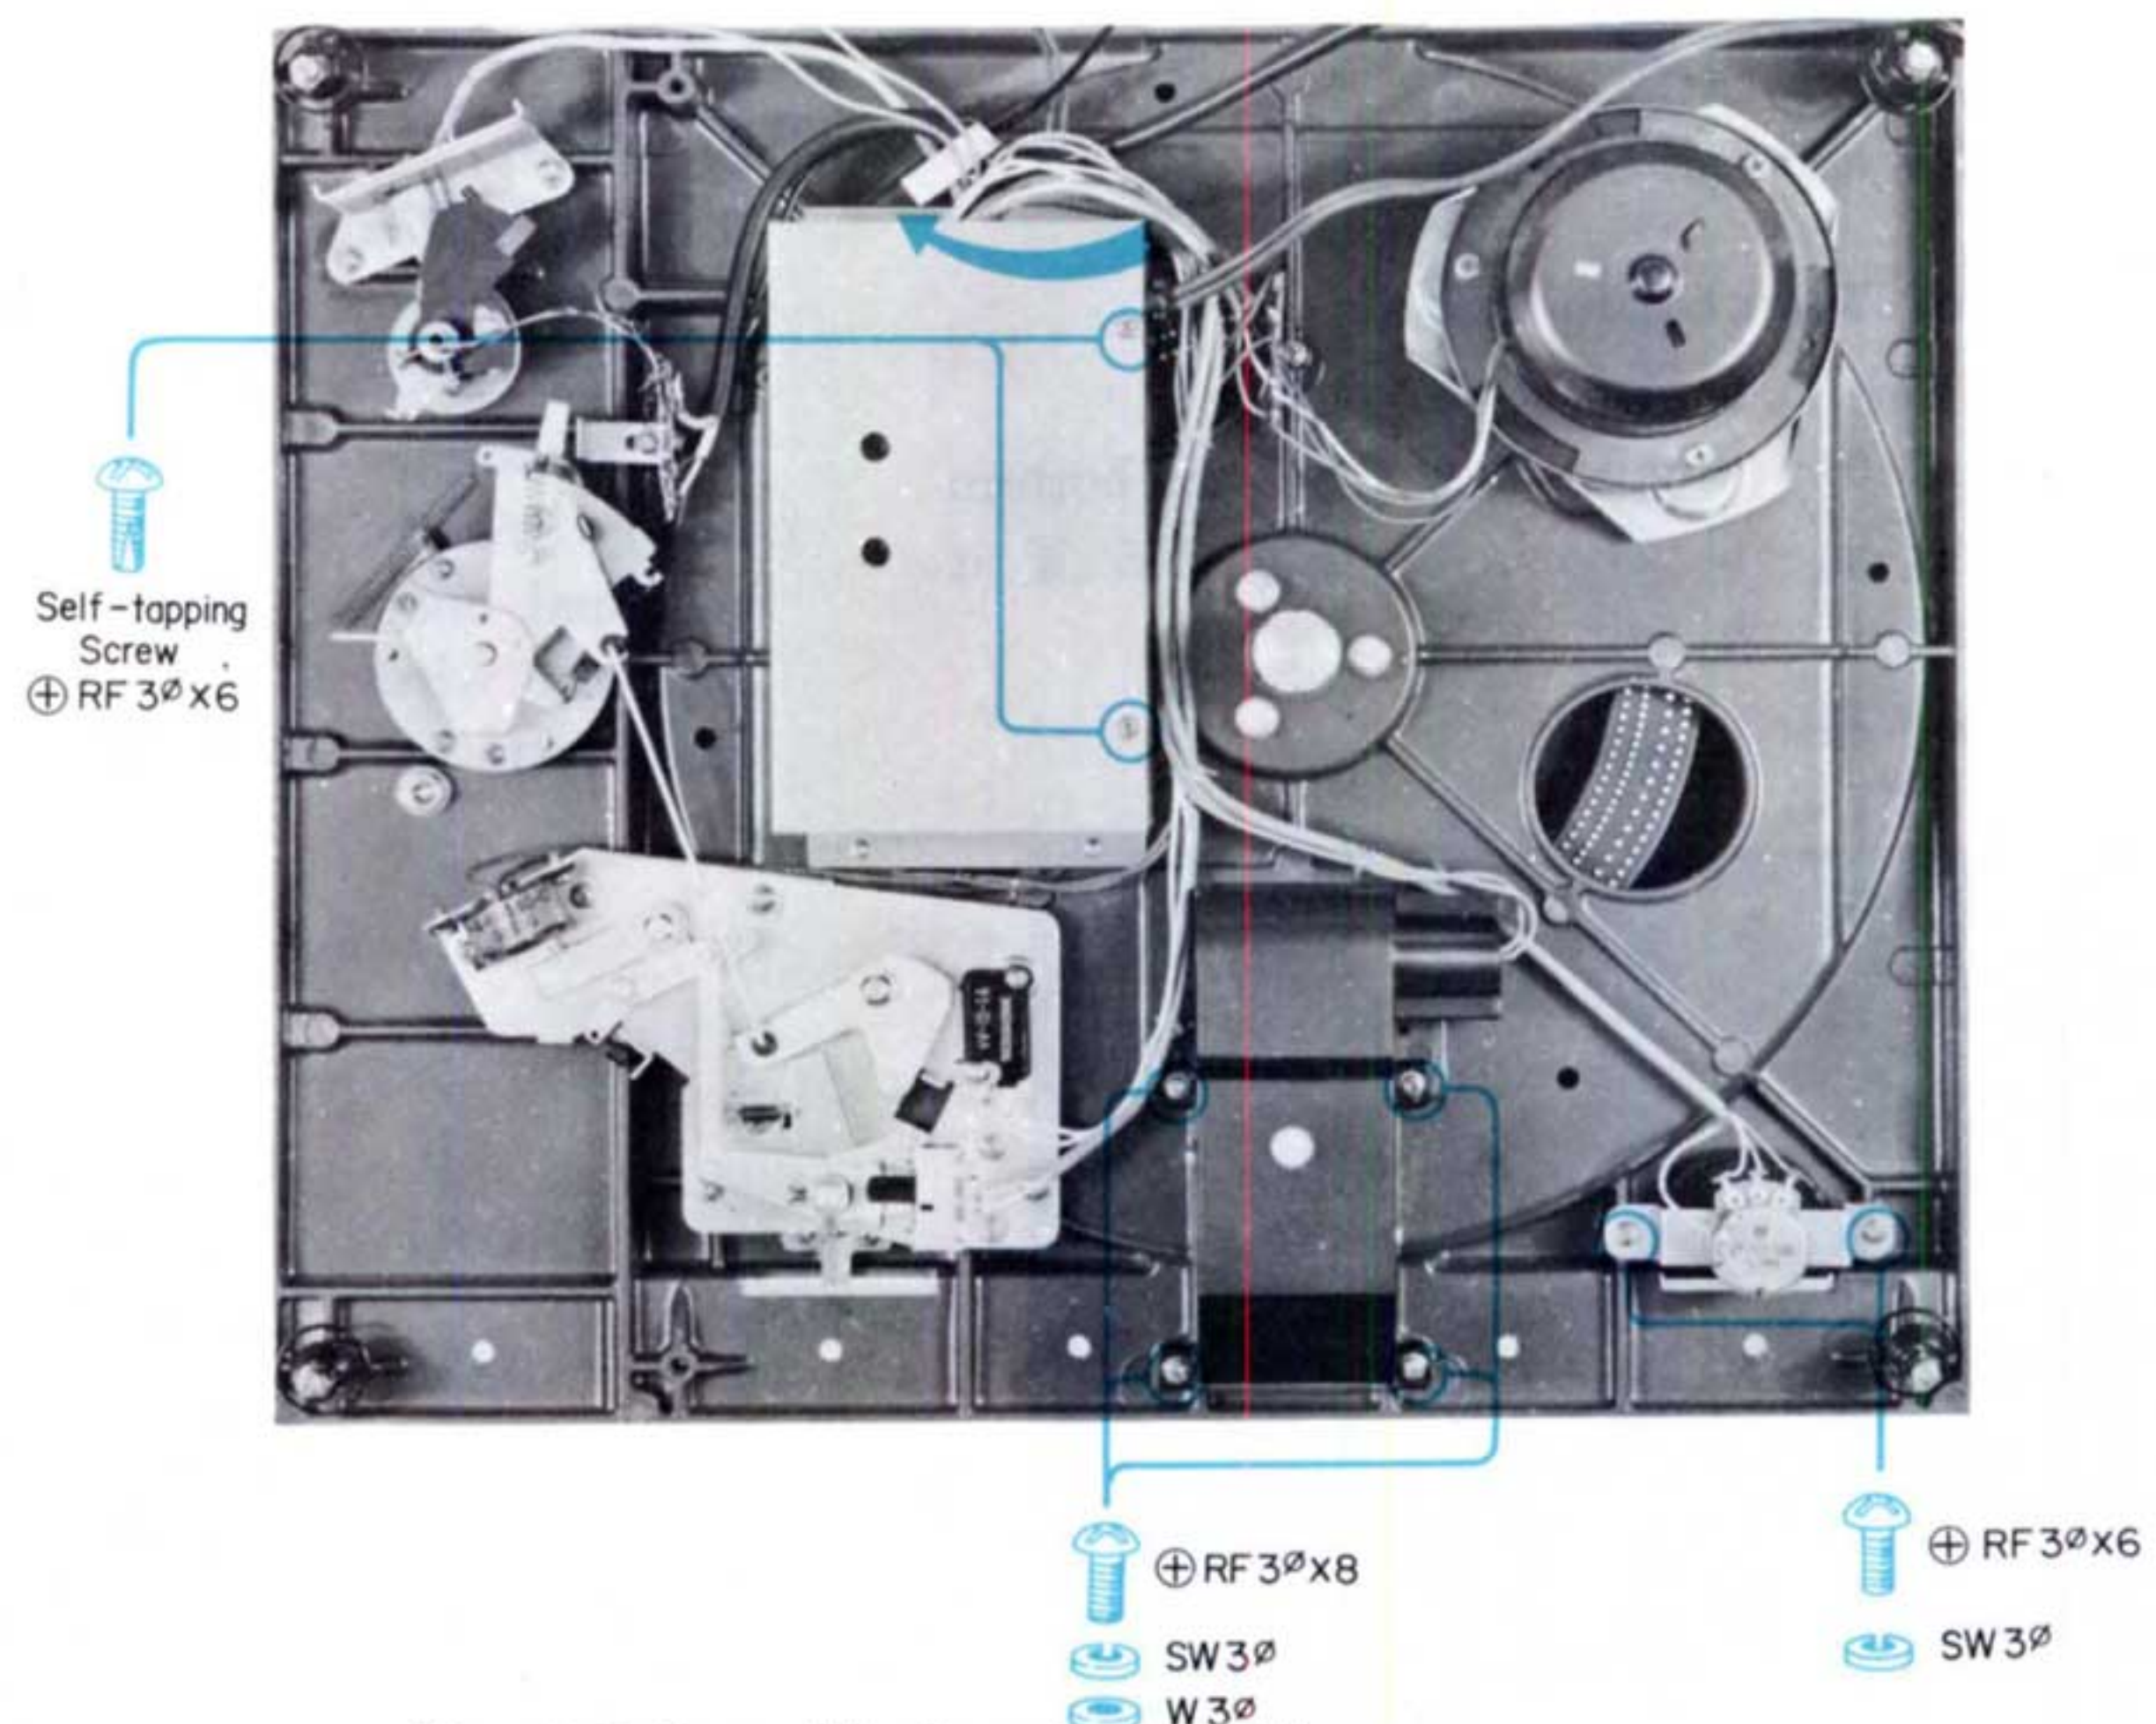

Fig. 2-9 Turntable Base Bottom View
2. Remove the two self tapping screws from the servo amp chassis as shown in Fig. 2-9.
3. Turn the chassis in the direction of the arrow in Fig. 2-9. Now the entire servo amp unit can be removed for service.
2. Remove the four screws (+RF 3 ϕ \times 8) that secure the strobe unit to the turntable base. See Fig. 2-9.
2. Remove the two screws (+RF 3 ϕ \times 6) from the bracket. Take off the bracket. See Fig. 2-9.